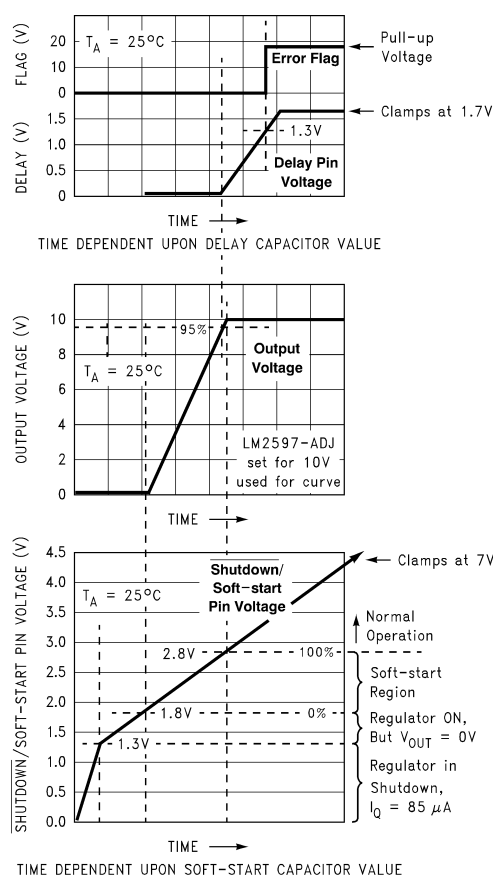
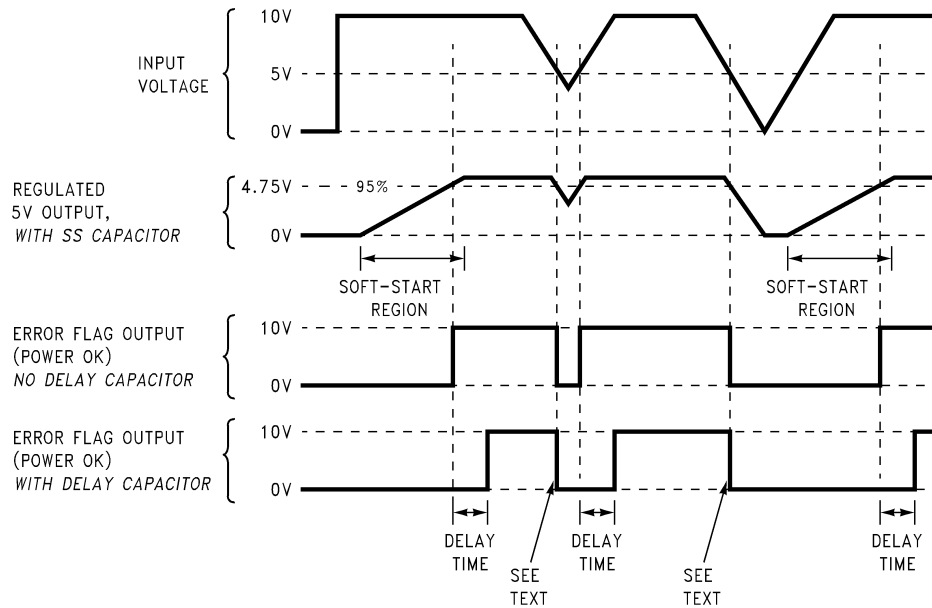

Figure 32. Soft-start, Delay, Error, Output
Figure 33. Timing Diagram for 5V Output
C_{SS} —A capacitor on this pin provides the regulator with a Soft-start feature (slow start-up). When the DC input voltage is first applied to the regulator, or when the Shutdown /Soft-start pin is allowed to go high, a constant current (approximately 5 μA) begins charging this capacitor). As the capacitor voltage rises, the regulator goes through four operating regions (See the bottom curve in Figure 32).
3. **Soft-start Region.** When the $\overline{\text{SD}}$ /SS pin voltage is between 1.8V and 2.8V (@ 25°C), the regulator is in a Soft-start condition. The switch (Pin 8) duty cycle initially starts out very low, with narrow pulses and gradually get wider as the capacitor $\overline{\text{SD}}$ /SS pin ramps up towards 2.8V. As the duty cycle increases, the output voltage also increases at a controlled ramp up. See the center curve in Figure 32. The input supply current requirement also starts out at a low level for the narrow pulses and ramp up in a controlled manner. This is a very useful feature in some switcher topologies that require large startup currents (such as the inverting configuration) which can load down the input power supply.
The lower curve shown in Figure 32 shows the Soft-start region from 0% to 100%. This is not the duty cycle percentage, but the output voltage percentage. Also, the Soft-start voltage range has a negative temperature coefficient associated with it. See the Soft-start curve in Electrical Characteristics.
C_{DELAY} —Provides delay for the error flag output. See the upper curve in Figure 32, and also refer to timing diagrams in Figure 33. A capacitor on this pin provides a time delay between the time the regulated output voltage (when it is increasing in value) reaches 95% of the nominal output voltage, and the time the error flag output goes high. A 3 μ A constant current from the delay pin charges the delay capacitor resulting in a voltage ramp. When this voltage reaches a threshold of approximately 1.3V, the open collector error flag output (or power OK) goes high. This signal can be used to indicate that the regulated output has reached the correct voltage and has stabilized.